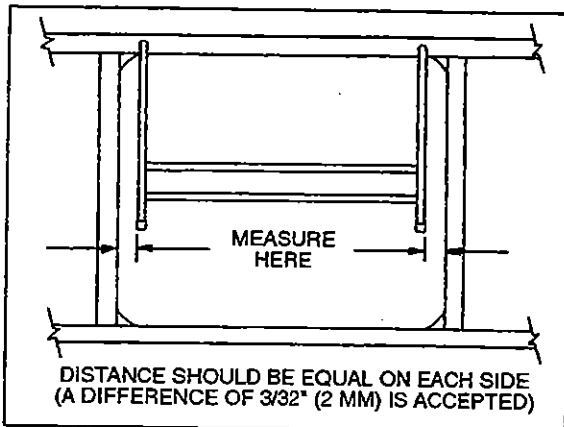

Figure 20
3. Measure distance between a pantograph arm end and the structure. Repeat procedure for the other arm. The distance on each side should be equal as the pantograph arm assembly must be centered in baggage compartment opening. If not, bend the appropriate pantograph arm end until desired measure is obtained. A difference of $3/32$ " (2 mm) between both sides is accepted. Refer to figure 20.